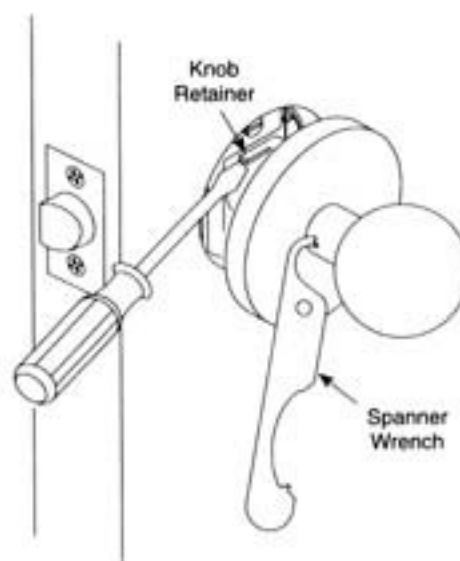

Figure 1
2. Using small screwdriver or other probe, push spring-loaded knob retainer toward hinge edge of door. While retainer is pushed, pull inside knob off. Note: to illustrate knob retainer clearly, Figure 1 depicts a larger opening than is normally available.